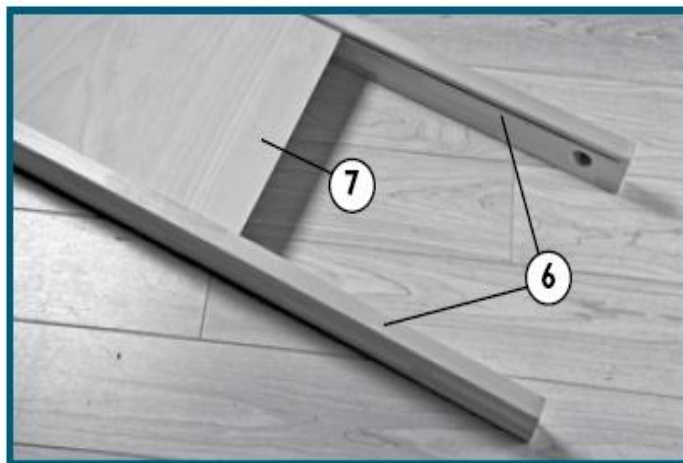

Fig. 2
2. Slide the Center Shelf (7) into the grooves of both Middle Stretchers (6) as shown in Fig. 2.